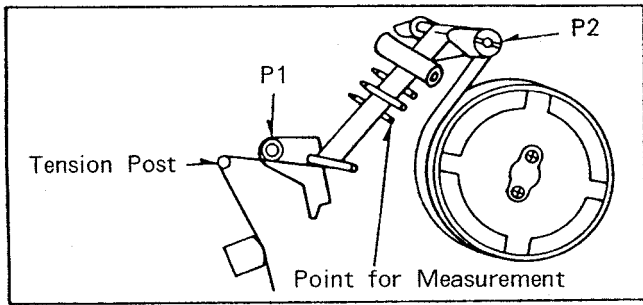

Fig. M22 Measurement of Back Tension
2. Insert the Back Tension Meter into the path of a tape, and measure if the back tension is within specification as shown in Fig.M22.